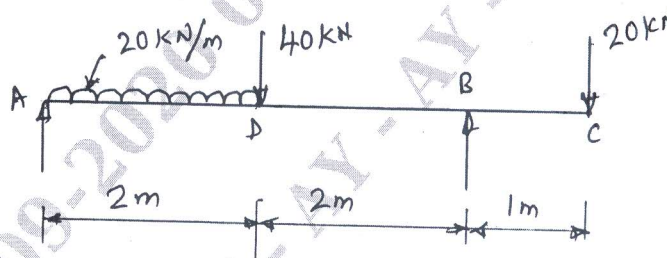

Fig.Q.5(b)
- Draw the shear force and bending moment diagrams for the beam shown in Fig.Q.5(b). (10 Marks)